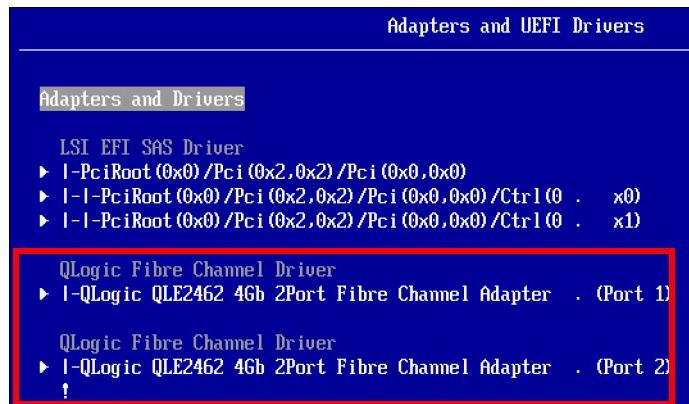

Figure 6-43 Adapters visible in UEFI
- ▶ Check whether UEFI recognizes the adapter. Select **UEFI → System Settings → Adapters and UEFI Drivers**. The Adapters and UEFI Drivers panel displays, as shown in Figure 6-43. You need to see Card - HBA. If not, reflash the UEFI, IMM, and firmware of the HBA and check again.